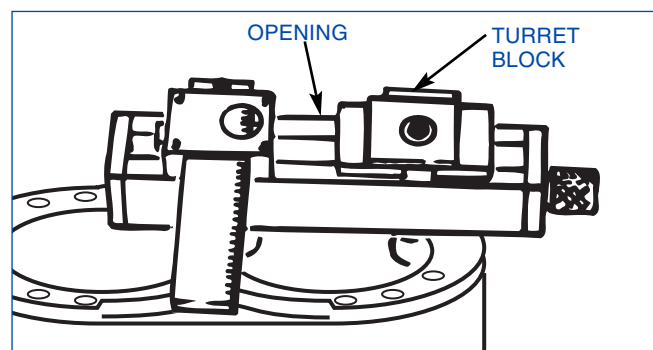

FIGURE 2-6, Setting Gage
7. Place Setting Gage in bore to be honed; then snug, making sure to center (see Figure 2-6).